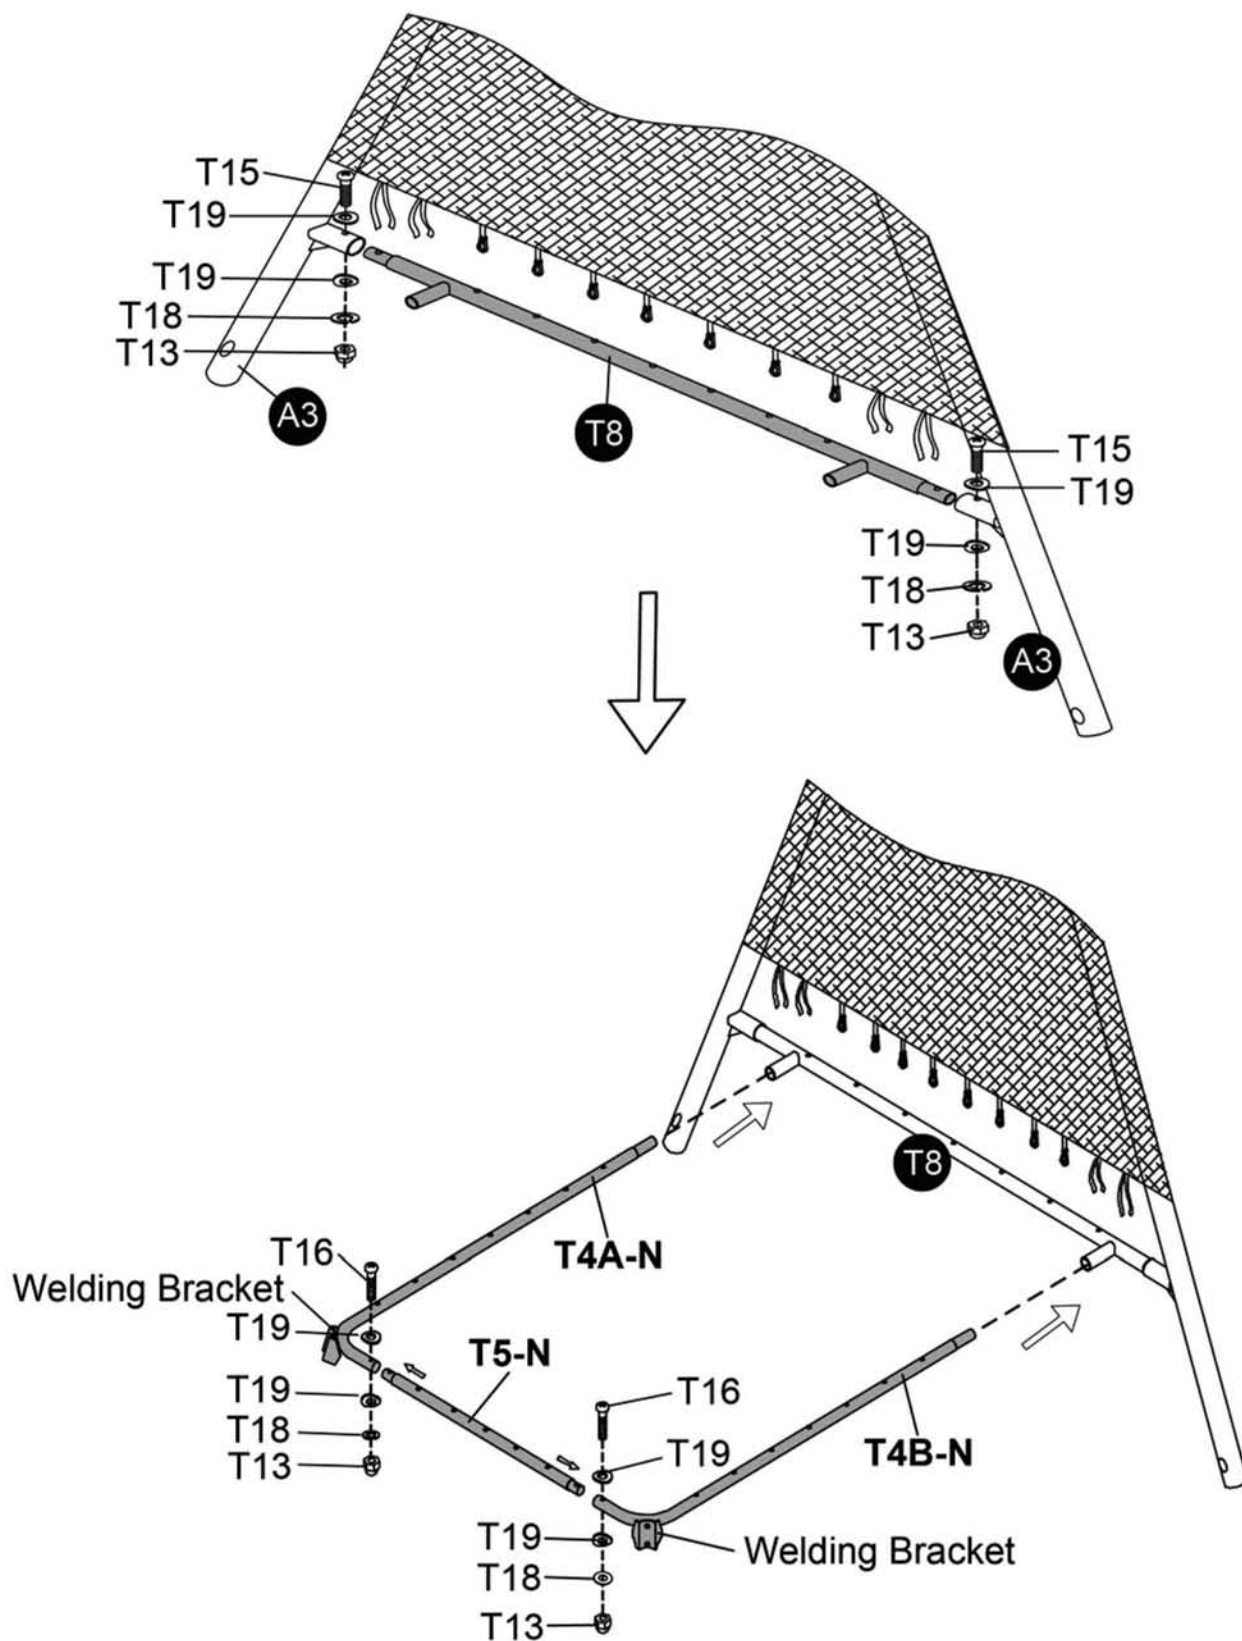

FIGURE 4
- Connect T4A-N, T4B-N and T5-N using T16, T19, T18 and T13 and insert the ends of T4A-N and T4B-N into the sockets of T8 as shown in the FIGURE 4.